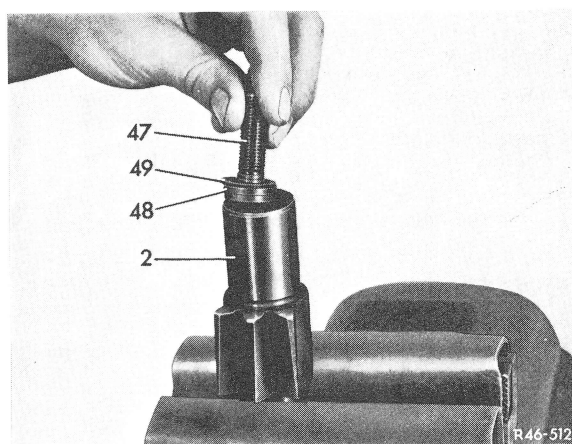

Fig. 9
9 Remove locking ring (49) from pitman shaft (2). Remove adjusting screw (47) including thrust washer (48) (Fig. 9 and 10).